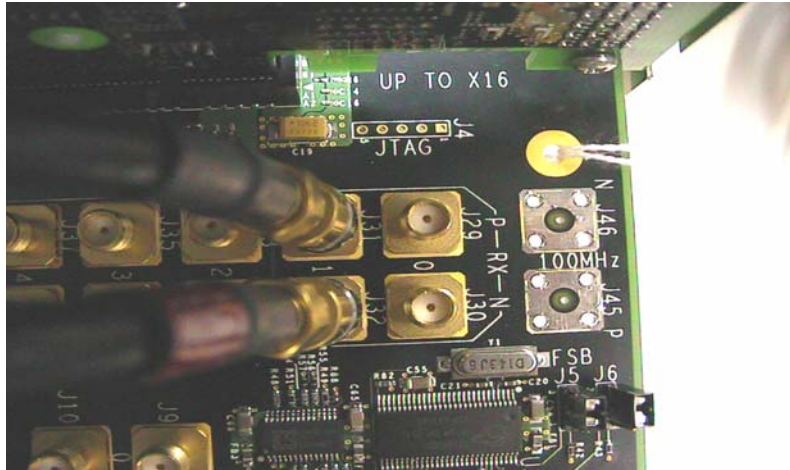

Figure 84 Compliance Base Board (CBB) SMA Probing Option
- a Digital Storage Oscilloscope channel 1 to the TX LANE P under test (where Lane 1 is under test in this example shown in Figure 84 above).
- b Digital Storage Oscilloscope channel 3 to the TX LANE N under test (where Lane 1 is under test in this example shown in Figure 84 above).